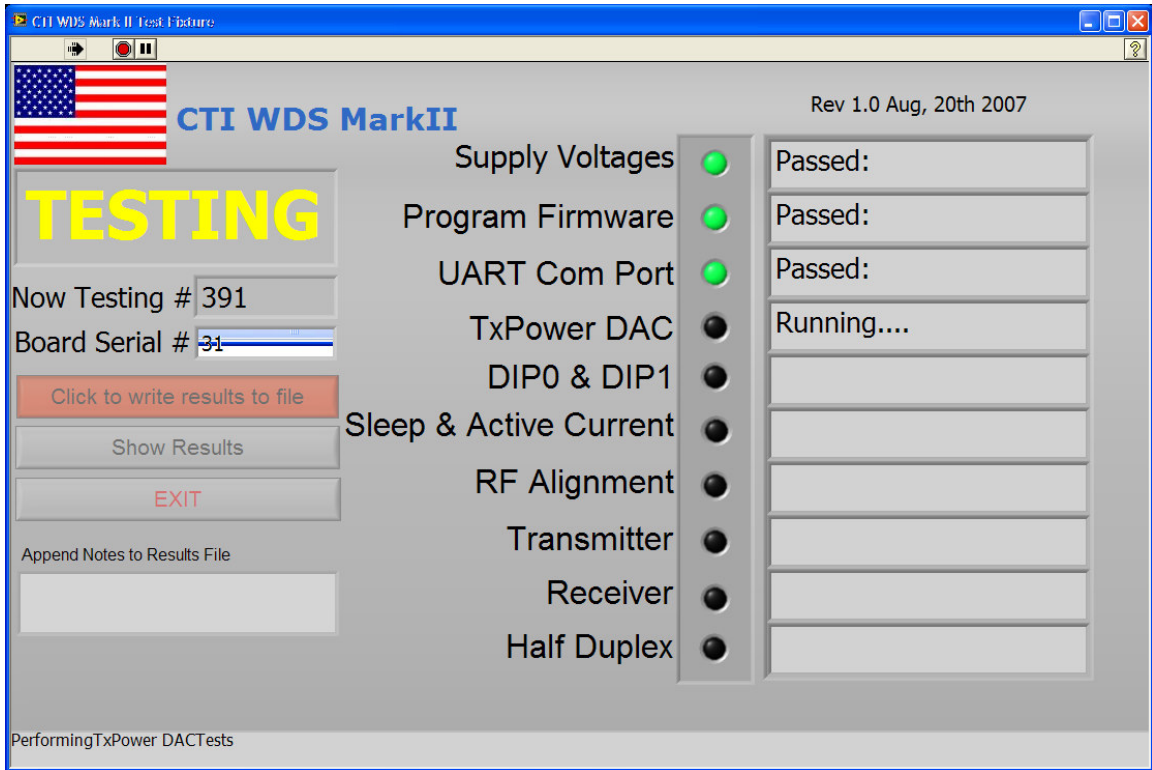

Figure 5-2 Testing program while running.
- b) Press the “Start Tests” button on the starting window. The display box will show “TESTING” and the LED-like indicators will light progressively from the top to bottom of the screen revealing the results of the tests as they happen. The “Testing” button will change to a “Click to write results to file” button. This button and the others will be grayed out and unavailable until the testing is finished. The screen appears as in Figure 5-2.